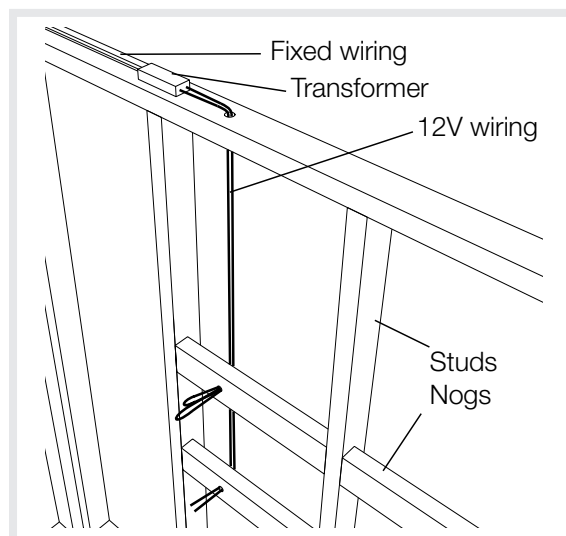

Figure 1.0
- Typical wiring for timber framed walls is shown in *Figure 1.0*
- Pull the supplied appliance wire through the 8mm holes as shown in *Figure 1.0* and connect to the 12V transformer (also supplied).